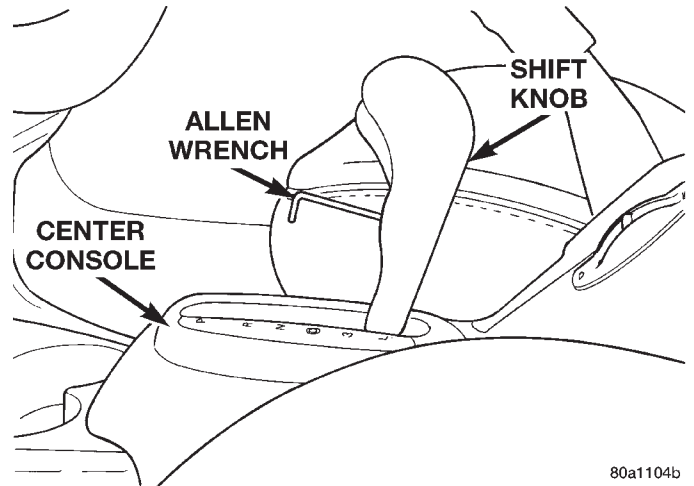

Fig. 144 Shift Knob Retaining Screw
- (2) If vehicle is equipped with an automatic transmission remove the shift knob from the shifter. The gear shift knob is attached to the shifter using a set screw (Fig. 144). Access to the set screw is from the front of the shift knob and is removed using a 2 mm allen wrench (Fig. 144).